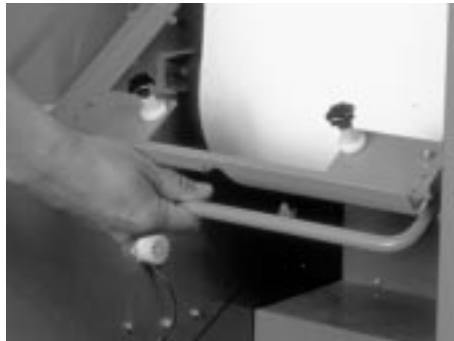

Figure 232. Releasing the Brake
- 1 Release the brake by lifting up the brake lever located near the bottom of the paper supply, as shown in Figure 232.